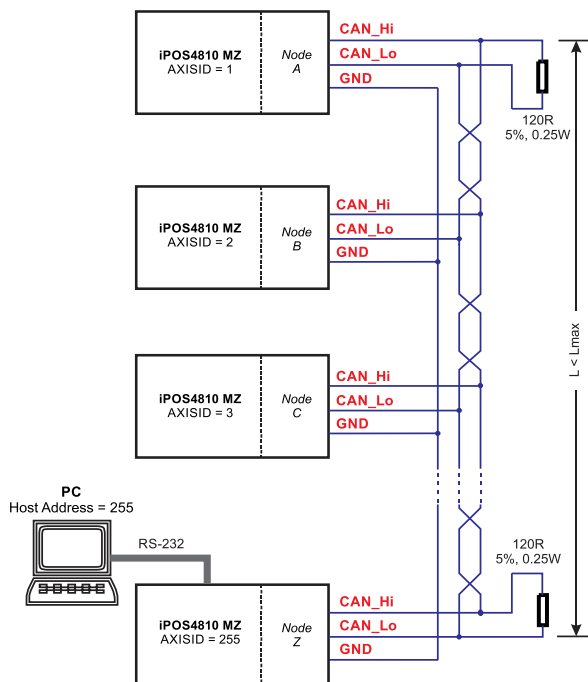

Figure 3.30. Multiple-Axis CAN network
1. The CAN network requires a 120-Ohm terminator. This is not included on the board. Figure 3.30 shows how to connect it on your network